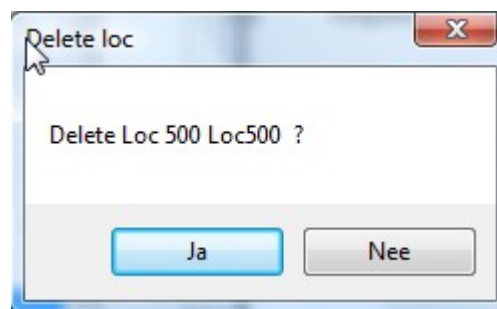

Figure 40: Delete Loc
- With the button Del Loc a locomotive can be deleted from MDRRC. Select the loc to be deleted in the list and select press Del Loc. A confirmation is required before deleting as shown in figure 40.